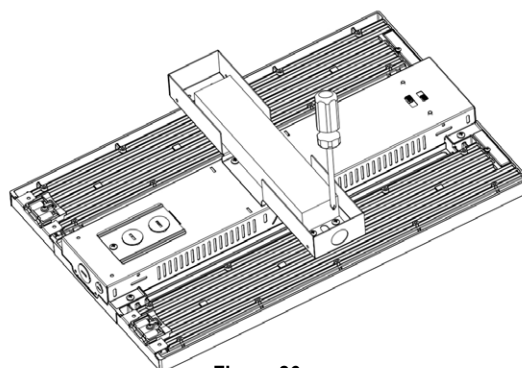

Figure 26
2. Lock the transformer on the mounting kit and tighten the screws. (see Fig. 26)